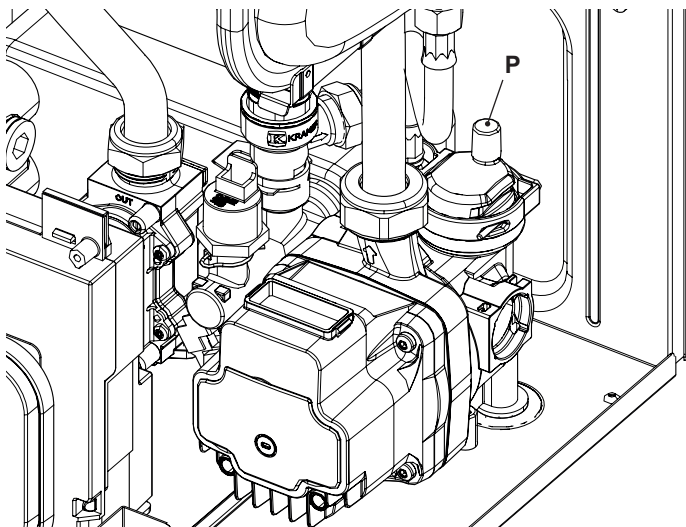

Figure 2.12
- 4 To make draining easier, lift the plug "P" of the automatic relief valve in Figure 2.12.